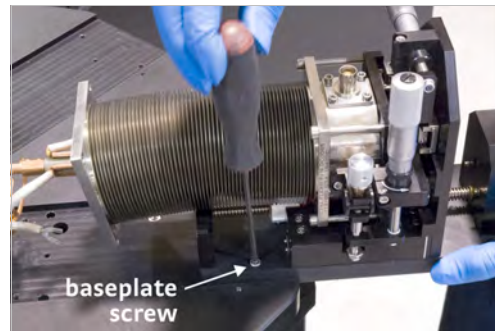

FIGURE 5-7 Secure the micro-manipulated stage to its holding location
7. Slide the stage back, and use the 3 mm hex driver to secure the stage to its holding location with two M4 screws (FIGURE 5-7). This is an optional step, and is given to provide you with a convenient work space.